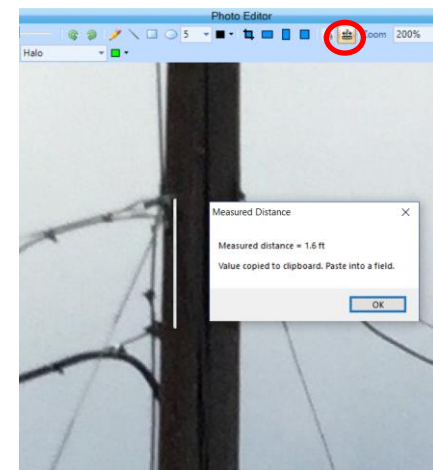

Figure 21
21. Use the **Measure Distance** function to accurately measure the separation between wires or any other dimension required (Figure 21)